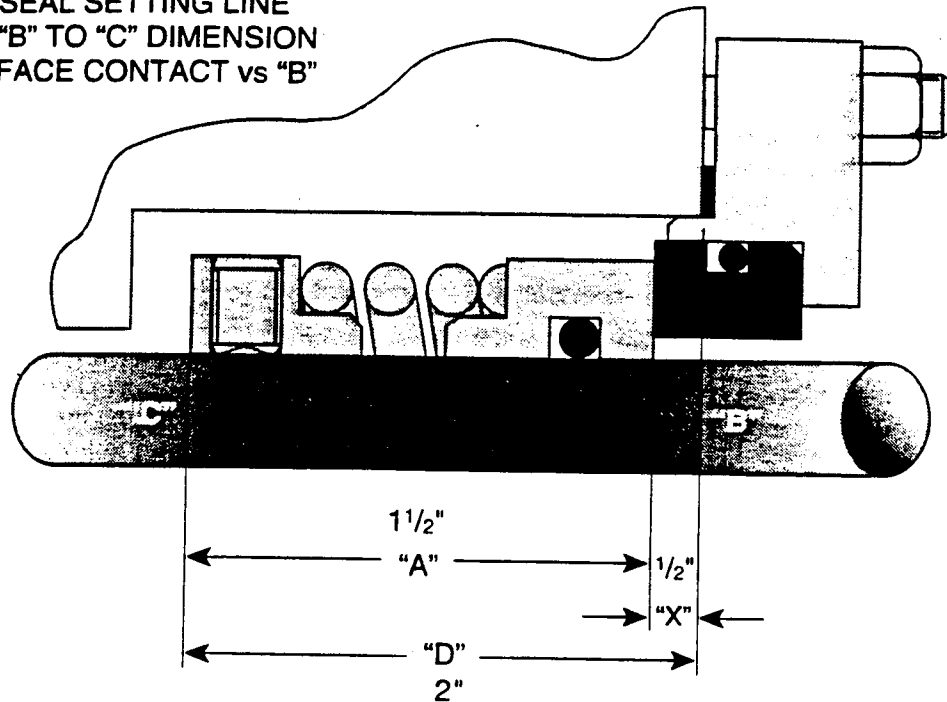

Figure 42
Next color the shaft or sleeve at the face of the seal chamber with machinist blue. Manually turn the shaft and scribe a line at the seal chamber face in the colored section using a straight edge held across the seal chamber face. This line is represented by the letter "B" of *Figures 42 and 43*. This line gives the point of reference needed to set the seal at its proper operating length.
If the stationary seal ring extends into the seal chamber, as shown in *Figure 42*, measure the distance and label this dimension "X". This dimension is added to the operating length "A" to find the distance "D" from seal chamber line "B" to reference line "C" to the back of the seal set position. All gaskets should be in place for this measurement.
Example: (*Figure 42*)
- If the stationary face pilots into the seal chamber (*Figure 42*), add the dimension "X" to the operating length to determine the position of the back of the seal.